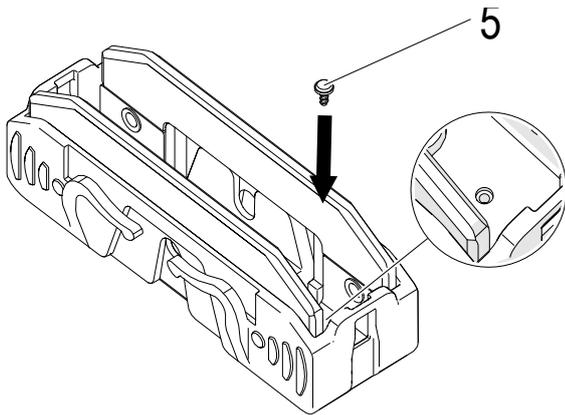

Fig. 162: Tighten STS-plus 1.4x4 – T5 screw
→ Tighten STS-plus 1.4x4 – T5 screw (5) to secure the sliding contact (1). Tightening torque: 0.2 Nm (see Fig. 162)